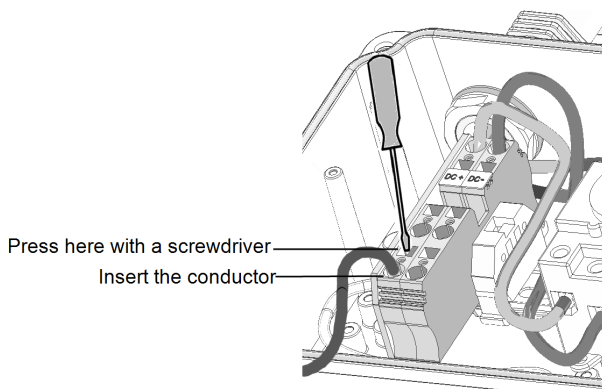

Figure 27: DC Spring-clamp terminal example - single phase 10-11.4 kW inverter
- a. Use a standard flat-blade screwdriver to connect the wires to the spring-clamp terminals. The screwdriver blade should fit freely in the terminal opening. Too large a blade can crack the plastic housing. See Figure 27